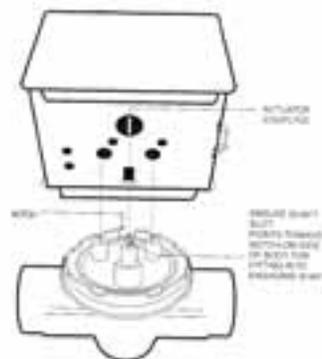

Figure 13: Installing isolation valve
- 3 Align the slot on the shaft of the valve with the valve body notch on side of body. See Figure 13.